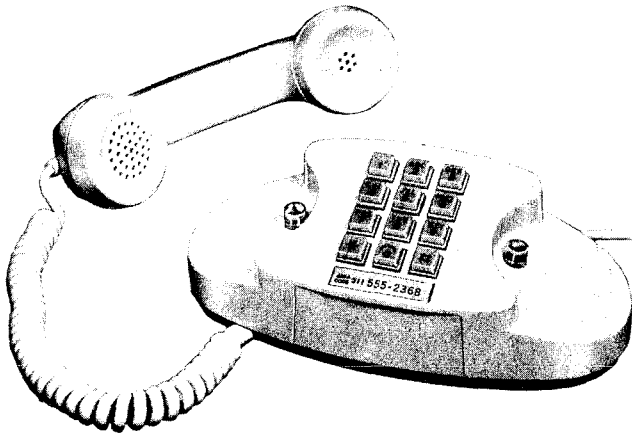

Fig. 1 — 2702B Telephone Set
1.01 This section covers PRINCESS® telephone sets equipped with 12-button TOUCH-TONE® dials (Fig. 1, 2, and 3).